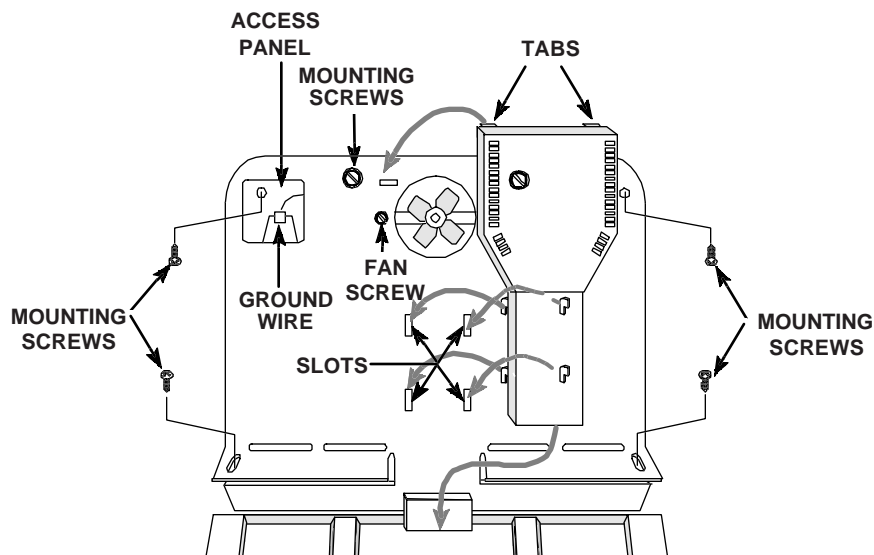

Fig. 52
1. Remove the two (2) screws securing the fan motor bracket to the rear wall of the freezer section. (Fig. 52)